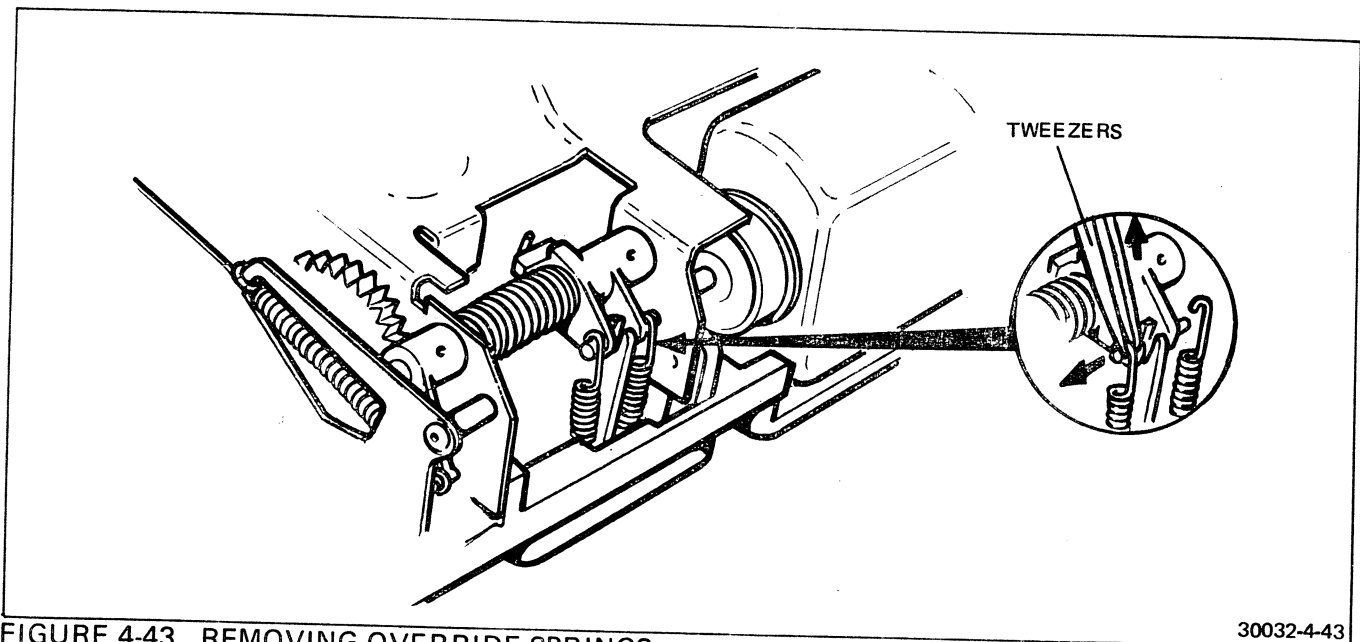

FIGURE 4-43 REMOVING OVERRIDE SPRINGS
17. Use tweezers and remove the two override springs. See Figure 4-43.